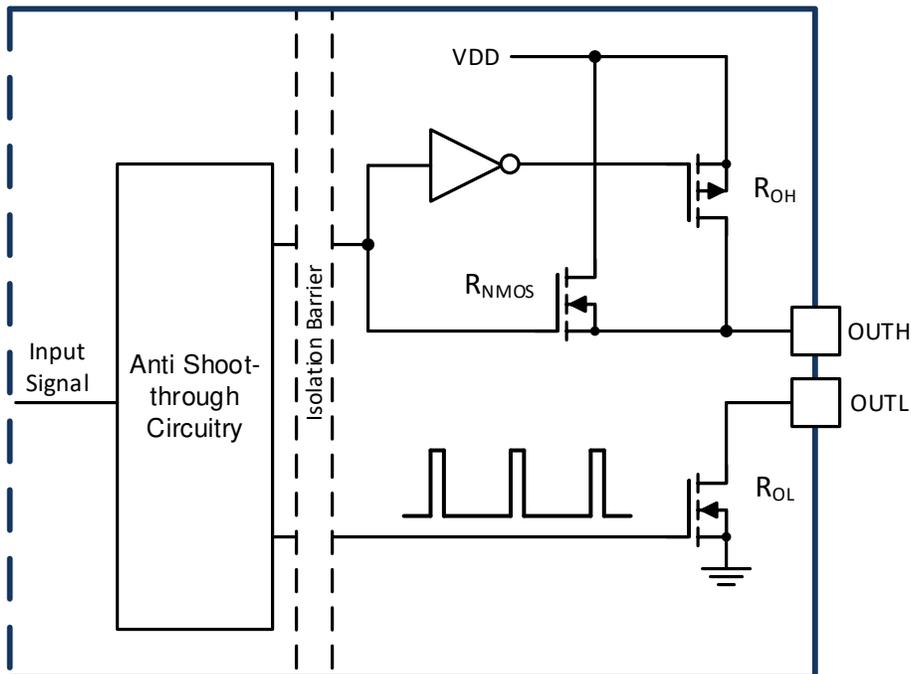

Figure 7-1. Gate Driver Output Stage
an important safety function wherein, when the input pins are in floating condition, the OUTH/OUTL is held in LOW state. The split output of the driver stage is depicted in Figure 7-1. The driver has rail-to-rail output by implementing a hybrid pull-up structure with a P-Channel MOSFET in parallel with an N-Channel MOSFET, and an N-Channel MOSFET to pull-down. The pull-up NMOS is the same as the pull down NMOS, so the on resistance R_{NMOS} is the same as R_{OL} . The hybrid pull-up structure delivers the highest peak-source current when it is most needed, during the Miller plateau region of the power semiconductor turn-on transient. The R_{OH} in Figure 7-1 represents the on-resistance of the pull-up P-Channel MOSFET. However, the effective pull-up resistance is much smaller than R_{OH} . Because the pullup N-Channel MOSFET has much smaller on-resistance than the P-Channel MOSFET, the pullup N-Channel MOSFET dominates most of the turn-on transient, until the voltage on OUTH pin is about 3 V below VDD voltage. The effective resistance of the hybrid pullup structure during this period is about $2 \times R_{OL}$. Then the P-Channel MOSFET pulls up the OUTH voltage to VDD rail. The low pullup impedance results in strong drive strength during the turn-on transient, which shortens the charging time of the input capacitance of the power semiconductor and reduces the turn on switching loss. The output pull-up and pull-down resistance can be found in the Electrical Characteristics table.
- $R_{\text{OH_EFF}}$ is the effective internal pullup resistance of the hybrid pullup structure, shown in Figure 7-1, which is approximately $2 \times R_{\text{OL}}$, about 0.7Ω . This is the dominant resistance during the switching transient of the pull up structure.